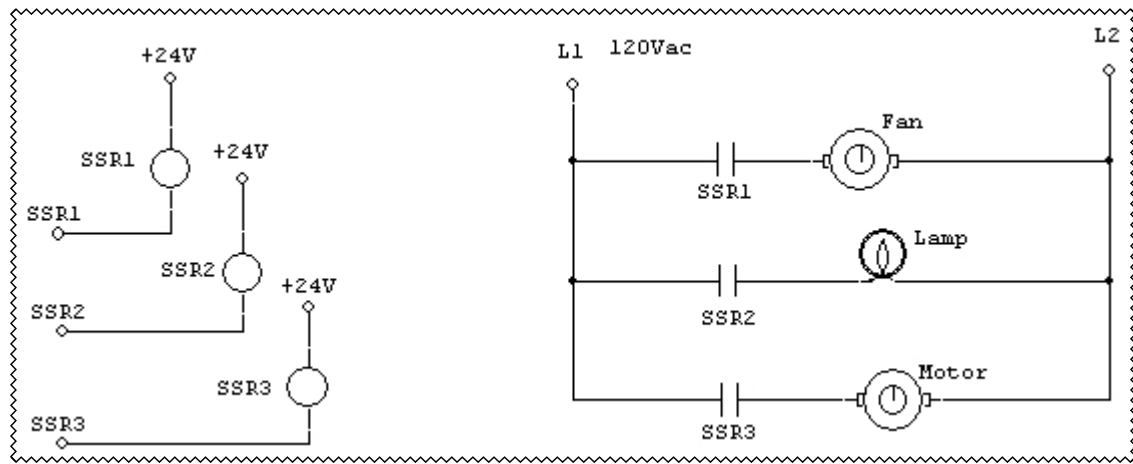

Fig. 4
6. Once the solid state relay coils are working, add 3 A.C. loads to the outputs of the relays as in Fig. 4. The A.C. load may be a fan, light bulb and motor.